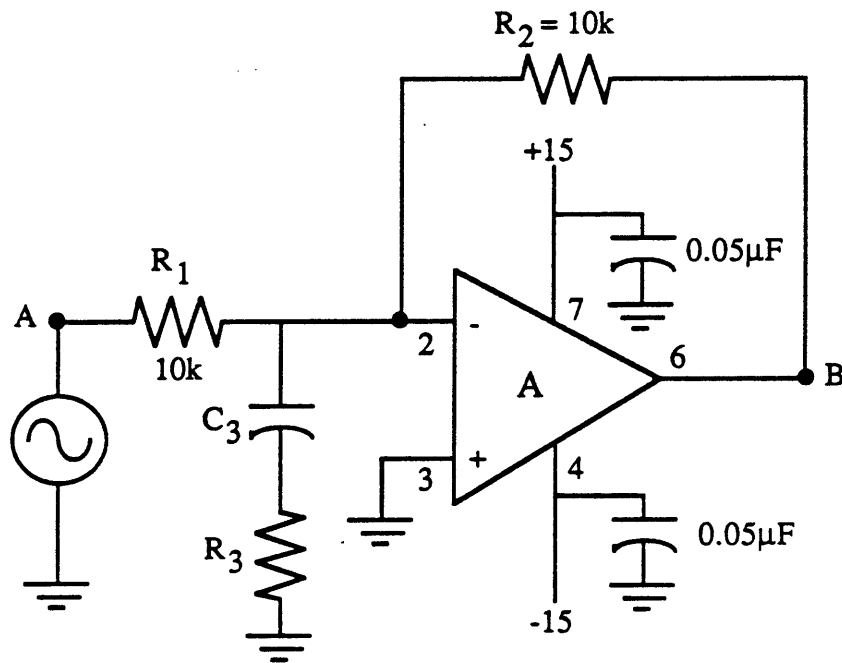

Figure 5 - Unity Gain Amplifier
- (1) Set the generator to 1 KHz. Build the circuit of Figure 5 without R_3 and C_3 . Connect point A to your generator output.
- (2) Examine point B with the CH1 input of your scope. Your circuit should be oscillating at a very high frequency.
- (3) Connect R_3 and C_3 as shown in Fig.5. Use values of $C_3=100\text{pF}$ and $R_3=1\text{k}$. These components increase the effective gain at high frequencies and eliminate the oscillation you saw in step (2).
- (4) Measure the amplitudes at point B for frequencies of 1 KHz, 10 KHz, 100 KHz, and 1 MHz. Record your results in Table 6.10
9. (a) What is the overall gain (B/A) of the circuit of Figure 5?